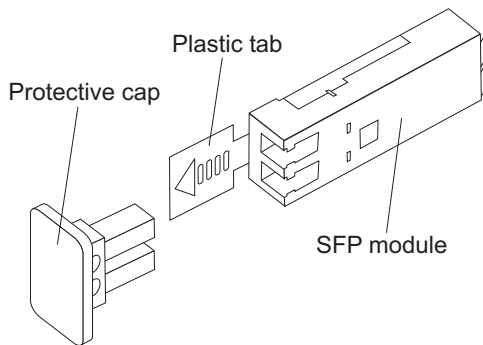

Figure 23. Installing an SFP module into the host port
4. Insert the SFP module into the host port until it clicks into place. See Figure 23.